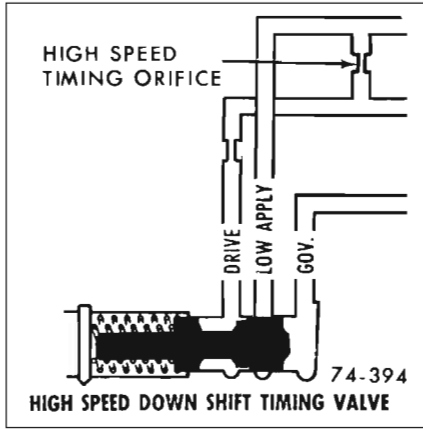

Figure 74-22—Third Stage Regulation
At higher car speeds governor pressure on the end of the valve increases to overcome force of two (2) springs. The valve will then move over to the retaining pin. See Figure 74-22. This prohibits oil from passing through